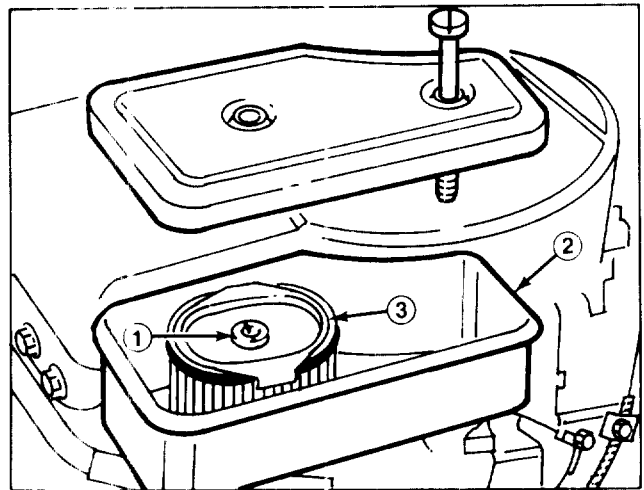

Figure 17
3. Remove plate screw, washer and plate (Fig. 17).